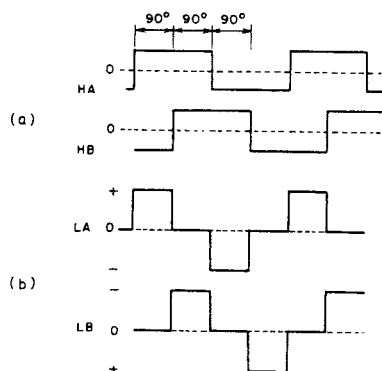

Fig. 9-1 Drive circuit waveforms
- When S1 is turned on, 29V is applied to pin ⑦ of motor drive IC PA2008 (IC2) and the Hall element.
- This voltage is applied to the position signal combination circuit of PA2008, and the waveform is shaped as shown in Fig. 9-1 (a). The signals are further combined to produce a staircase signal such as that shown in Fig. 9-1 (b).